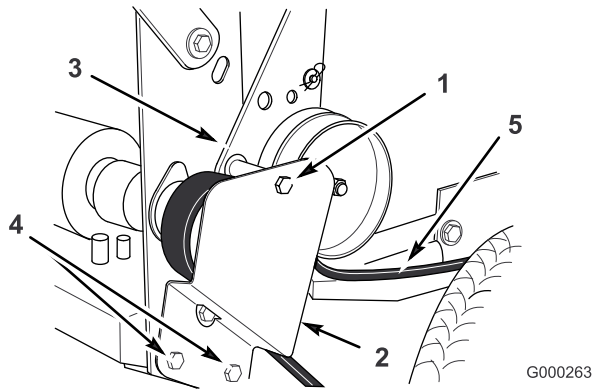

Figure 46
1. Remove the top bolt securing idler support and idler bracket to rear frame (Figure 46).
2. Loosen bottom two mounting screws enough to allow belt to pass between drive pulley and idler support (Figure 46).
5. Install the top bolt securing the idler support and idler bracket to the rear frame (Figure 46).
6. Tighten the bottom two mounting screws enough to allow the belt to pass between the drive pulley and idler support (Figure 46).